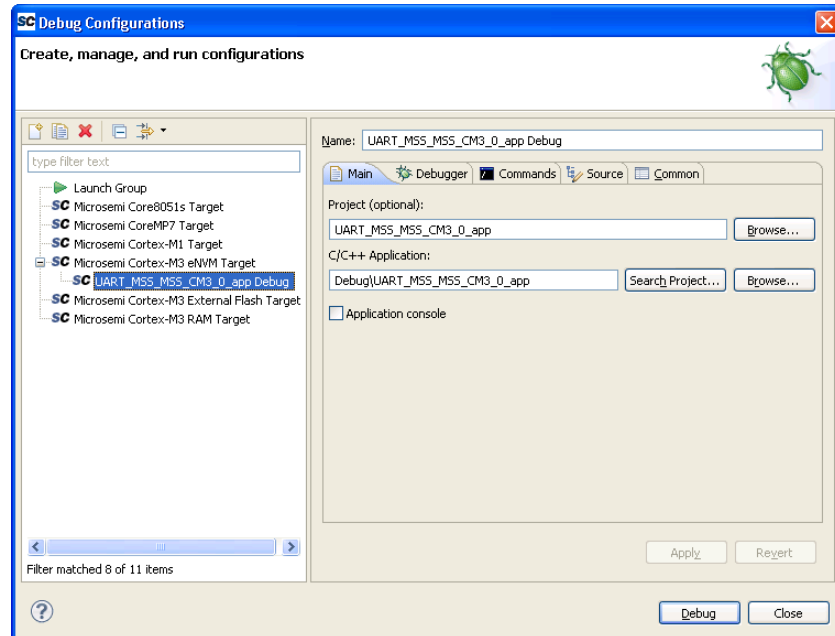

Figure 34 · Microsemi Cortex-M3 eNVM Target
14. Double-click **Microsemi Cortex-M3 eNVM** target, which displays a similar screen as Figure 34.